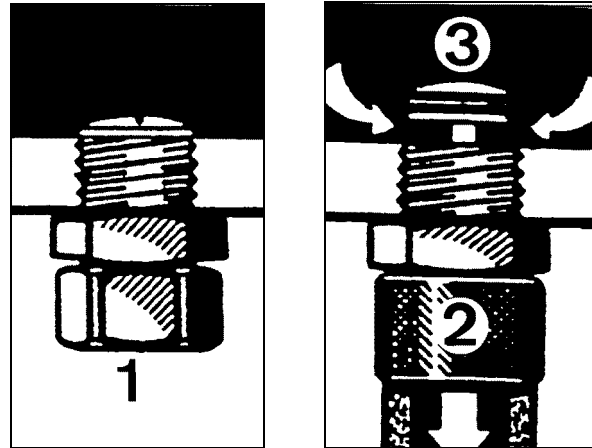

Fig. 4
After a long standstill period, drain any water from the hydraulic oil box. To do this, use the drain valve 1 (Fig. 4) at the underside of the box.
- Remove the lock nut 1 (Fig. 4) from the drain valve.